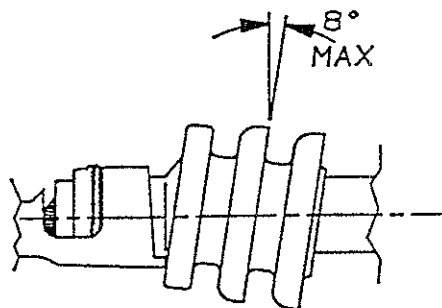

Fig. 6
5.1 After crimping, the part of the cable insulation that is inside the seal shall be in good condition and within the requirements shown in Figure 5. Check by visual inspection in the transition area (between wire and insulation barrel), as indicated in Figure 6.